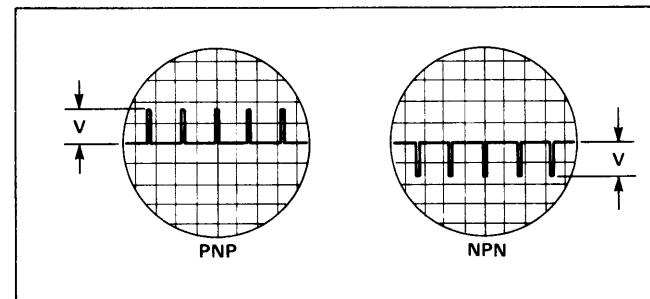

Fig. 10. Pulse voltage waveforms.
1. LEAKAGE/GAIN meter (19) should be zero calibration as per section "A".
2. Turn power switch (11) on and the DRIVE switch (10) to "LO" position. Connect the three test leads to a power transistor (any power transistor TO-3 package will do). Move Test Switch (4) through its positions until the unit indicates "GOOD" device (NPN/N-CH or PNP/P-CH lamp will light), and leave lever Test Switch (4) in that position.
3. Set NPN/PNP switch (12) to either "NPN/N-CH" or "PNP/P-CH" position, as indicated by the "GOOD" LED polarity. Set HI PWR/LO PWR switch (10) to its "HI PWR" position.
5. Turn TRANSISTOR BETA/FET gm switch (9) to the "TRANSISTOR BETA" position. Observe oscilloscope. Record pulse voltage height (V) (Fig. 10).